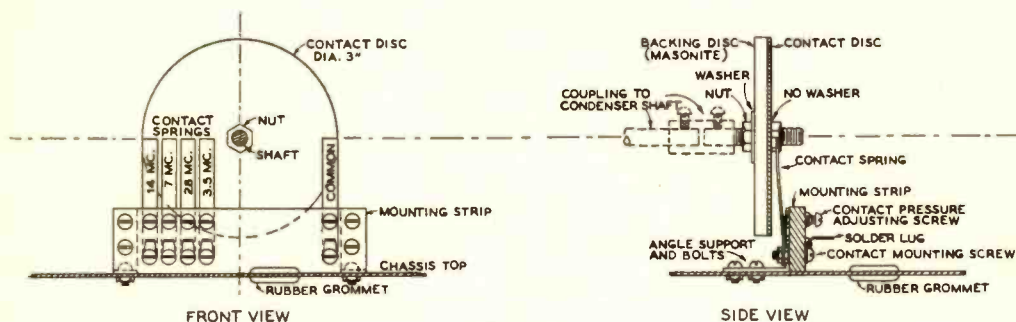

Figure 2.
Figure 2. (A) is a graphical representation of the various voltages existing within an operating class C stage. (B) shows the relative magnitudes and angles of flow of the currents flowing within the circuit.